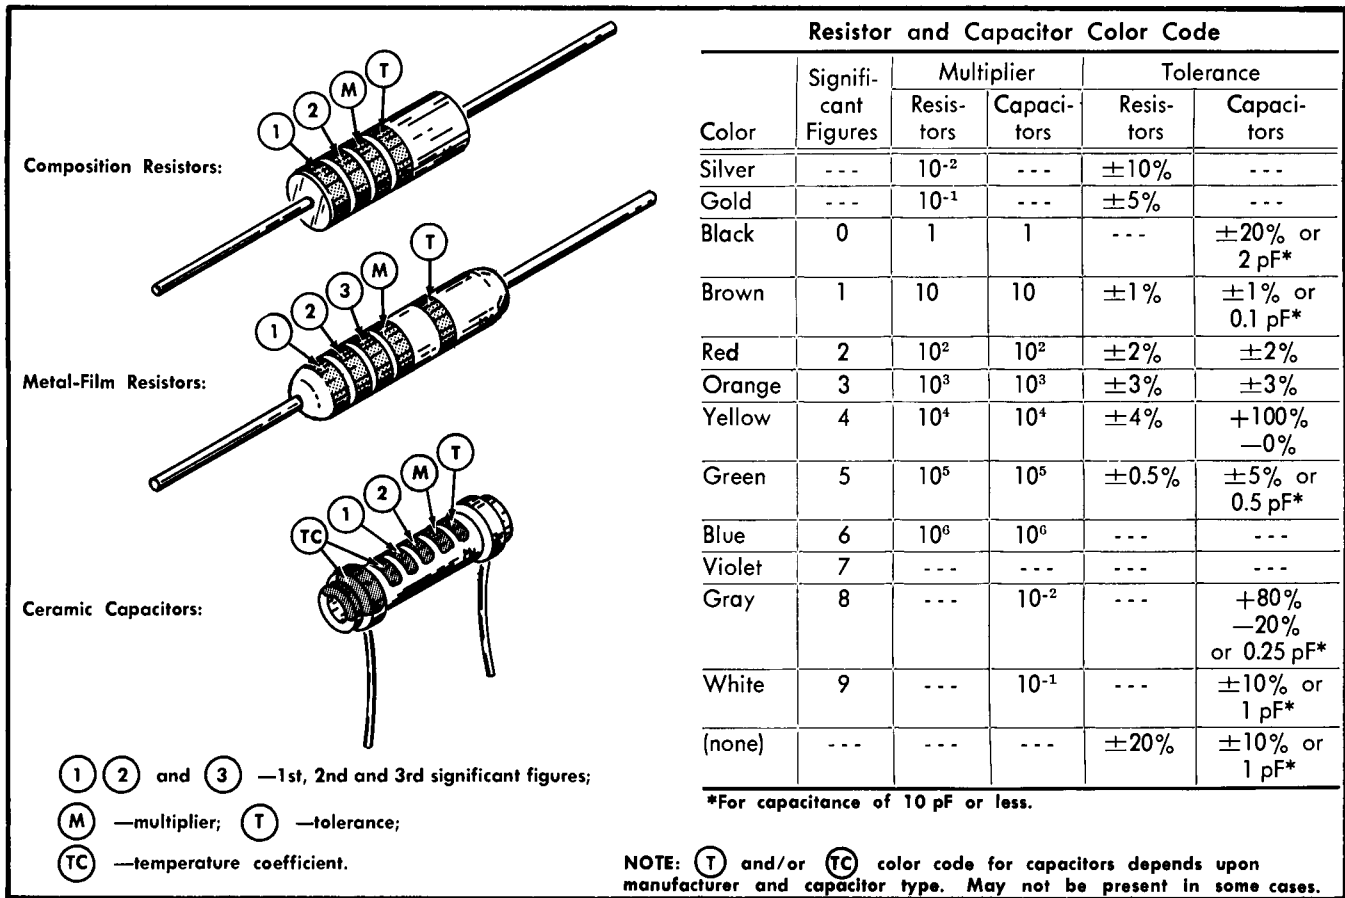

Fig. 4-1. Color code for resistors and ceramic capacitors.
**Resistor Color Code.** Stable metal-film resistors used in this instrument may be identified by their light blue or gray body. If a metal-film resistor has a value indicated by three significant figures and a multiplier, it will be color coded according to the EIA standard resistor color code. If the resistor has a value indicated by four significant figures and a multiplier, the value will be printed on the body of the resistor. For example, a 333 k $\Omega$  resistor will be color coded, but a 333.5 k $\Omega$  resistor will have its value printed on the resistor body. The color code sequence is shown in Fig. 4-1.
**Capacitor Markings.** The capacitance values of common disc capacitors and small electrolytics are marked in microfarads on the side of the component body. The white ceramic capacitors used in the Type 3A9 are color coded in picofarads using a modified EIA code (see Fig. 4-1).